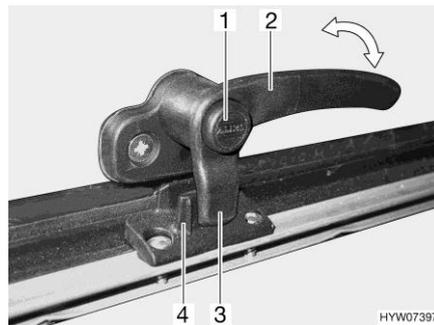
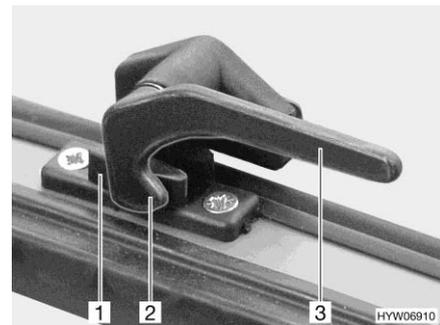

Fig. 68 Catch lever with safety knob in "closed" position
Fig. 69 Catch lever in "closed" position
- Opening:** ■ Press and hold the security button (Fig. 68,1), if present.
- Turn all catch levers (Fig. 68,2 or Fig. 69,3) a quarter turn towards the centre of the skylight.
- Press and hold the security button (Fig. 68,1), if present.
- Turn all catch levers (Fig. 68,2 or Fig. 69,3) a quarter turn towards the frame. The locking catch (Fig. 68,3 or Fig. 69,2) is located on the inside of the skylight lock (Fig. 68,4 or Fig. 69,1).
- "Firmly closed" (Fig. 68 and Fig. 69)